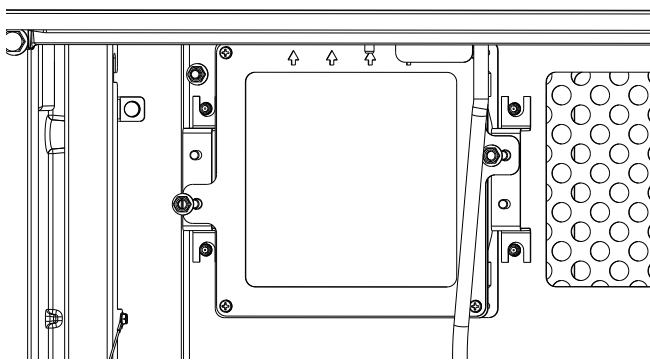

Figure 10.11. Secure nuts on studs. Tighten securely.
8. With the arrows facing up and out, rotate the Left Blower Assembly behind the burner gas line onto the studs on the blower brackets and secure with two M6 flange nuts. See fig 10.11